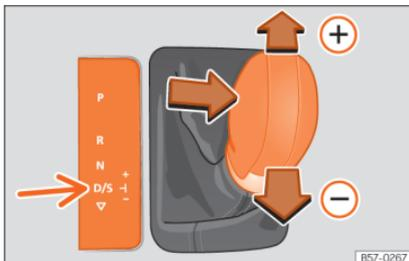

Fig. 259 Centre console: changing gear with tiptronic
- Move the selector lever forwards to select a higher gear »» **Fig. 259**.